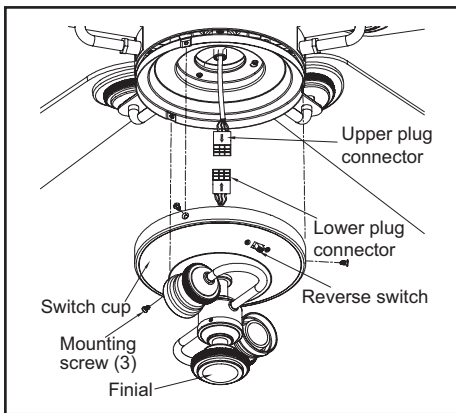

Figure 16
3. Remove three screws from the switch cup adaptor. Connect the molded adaptor plug in the switch cup with the molded adaptor plug of the fan motor assembly. (Figure 16)
4. Install the three screws that were removed in step 3. Tighten all three screws firmly. (Figure 16)
The fan shipped from the factory with the reversing switch positioned to circulate air downward. If airflow is desired in the opposite direction, turn your fan off and wait for the blades to stop turning, then slide the reversing switch (located at the top of the motor housing, refer to figure 16 on page 10) to opposite position, and turn fan on again. The fan blades will turn in the opposite direction and reverse airflow.